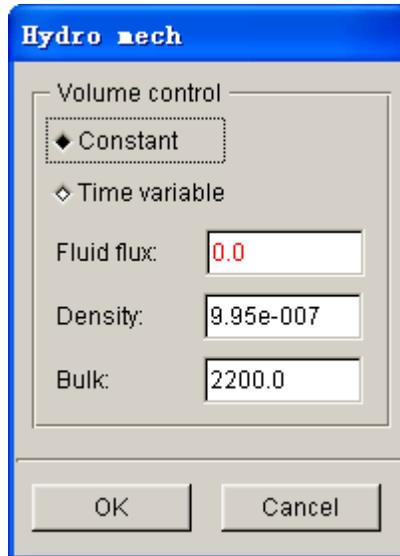

Figure 8.2.127 Fluid flux dialog box
**NO FLUX:** Allow the user to specify fluid flux vs. time curve to control internal fluid pressure. The dialog box is illustrated in Figure 8.2.127.